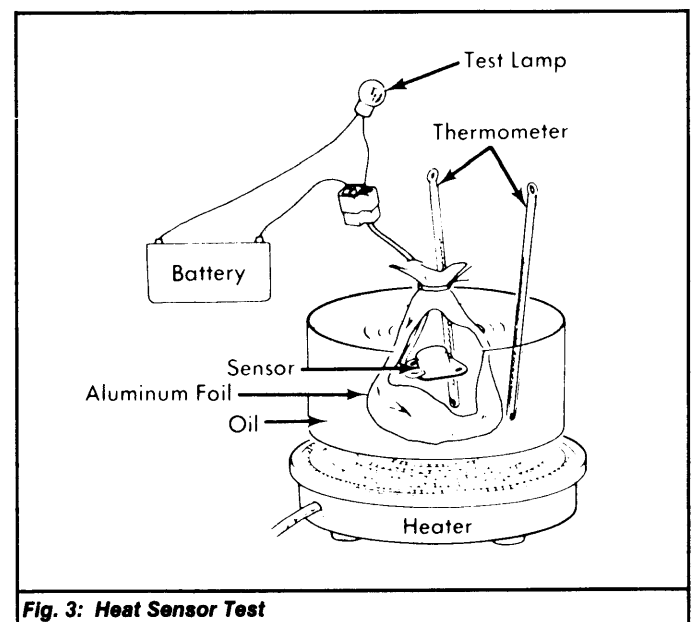

Fig. 3: Heat Sensor Test
1975-76 1600cc Piston Engine Equipped Models – 1) Locate heat hazard sensor. On Sedan and Coupe, sensor is located beneath mat, in floor of trunk. On Station Wagons, sensor is located under rear seat. 2) Remove sensor and wrap sensor and thermometer in aluminum foil. Place sensor in container of oil. See Fig. 3. Connect test light and power source to sensor. Slowly heat oil. Test light should come on when temperature in foil reaches 203-221°F (95-105°C). Replace sensor if defective.
2) Remove sensor and wrap sensor and thermometer in aluminum foil. Place sensor in container of oil. See Fig. 3. Connect test light and power source to sensor. Slowly heat oil. Test light should come on when temperature in foil reaches 230-260°F (100-130°C). Replace sensor if defective.